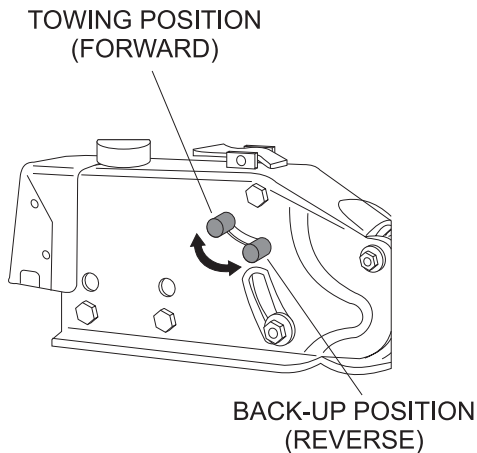

Figure 41. Towing Hitch Direction Lever
12. The direction lever must be positioned in the "Towing Position" (Figure 41).
3. Move the directional lever on the side of the actuator downward from the "TOWING" position along the curved slot in the actuator frame to the "BACK-UP" position (Figure 41). The slot has a notch at the bottom of its travel. Push the directional lever down to engage the locking notch.
Before towing the pump, always ensure that the **directional lever** (Figure 41) has been disengaged and is in the "Towing Position."